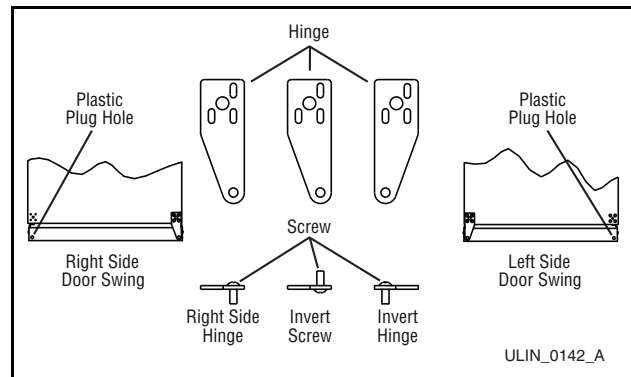

Figure 15
7. Relocate plastic spacer/bushing (**Figure 15**) on bottom of door to opposite side, and place door on bottom hinge pin. Clean out bushing hole in door bottom with a screwdriver if necessary.